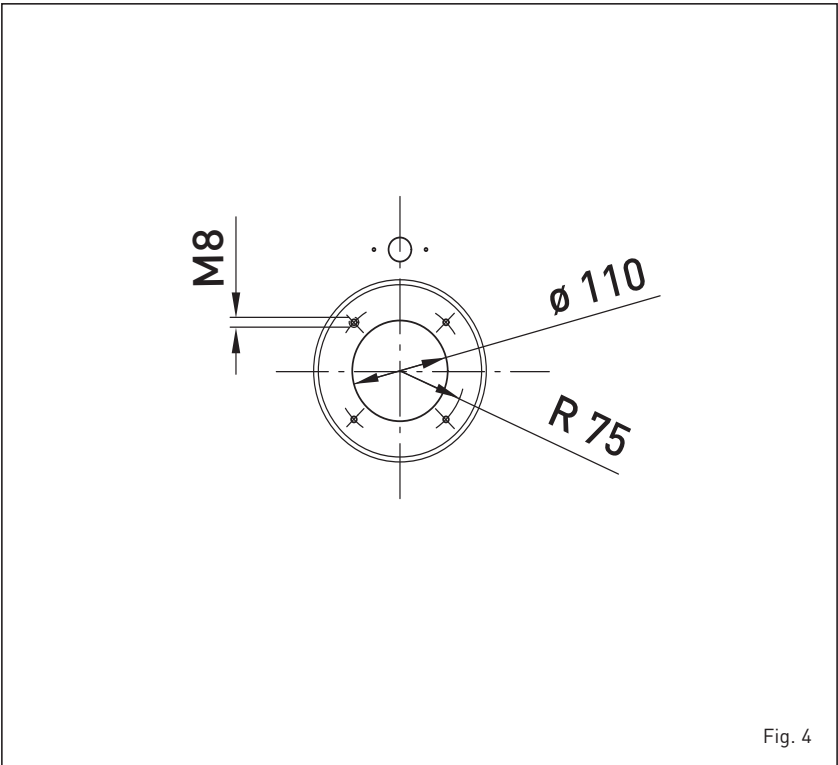

Fig. 4
1.7.2 Burners assembly (fig. 4)
The boiler door details is shown in figure 4 for burner mounting. The burners must be regulated such that the CO₂ value is that indicated in point 1.3, with a tolerance of ± 5%.
2.4.2 Smoke exhaust with ø 80/125 coaxial flue (fig. 4/a)
Our boilers **RONDÒ -ESTELLE ErP BE** are set to be connected to ø 80/125 stainless steel coaxial flues that can be adjusted to the most suitable direction for room requirements (fig. 4/a).